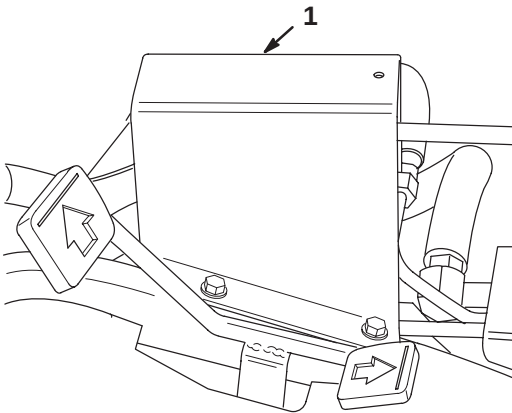

Figure 46
1. Place 1, 2, and 3 spools in neutral (center of travel) and remove the transfer rod guard from the foot panel (Fig. 46).